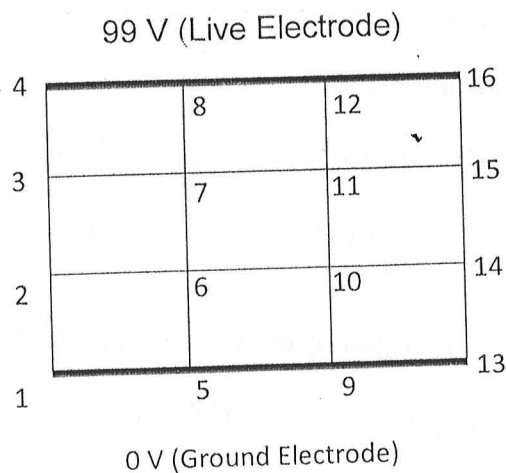

Fig. 1.
- b) Fig. 1 shows the arrangement for a parallel plate capacitor. Total sixteen nodes have been placed on the electrodes and in the region in between them respectively. All adjacent nodes are at equal distances from each other. Compute the values of potentials for nodes 6, 7, 10 and 11 respectively, up to second iterations. 10